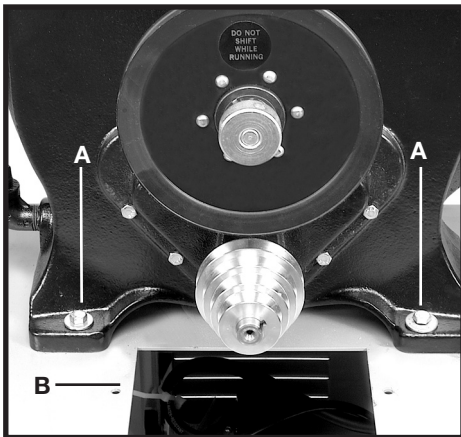

Fig. 7
IMPORTANT: PLACE THE MOTOR SHAFT (E) on the same side of the stand as the large opening in the top of the stand (See (B) Fig. 7) before loosely tightening the carriage bolts (D). Further alignment will be necessary after the saw is attached to the stand.
Attach the band saw to the optional stand using the four holes provided (two are shown at (A) Fig. 7). Place one 5/16 -18 x 1-3/4" hex head screw with one 5/16" flat washer through each hole through the bottom of the band saw and the top of the stand, and attach with a 5/16" lock washer, and 5/16-18 hex nut.